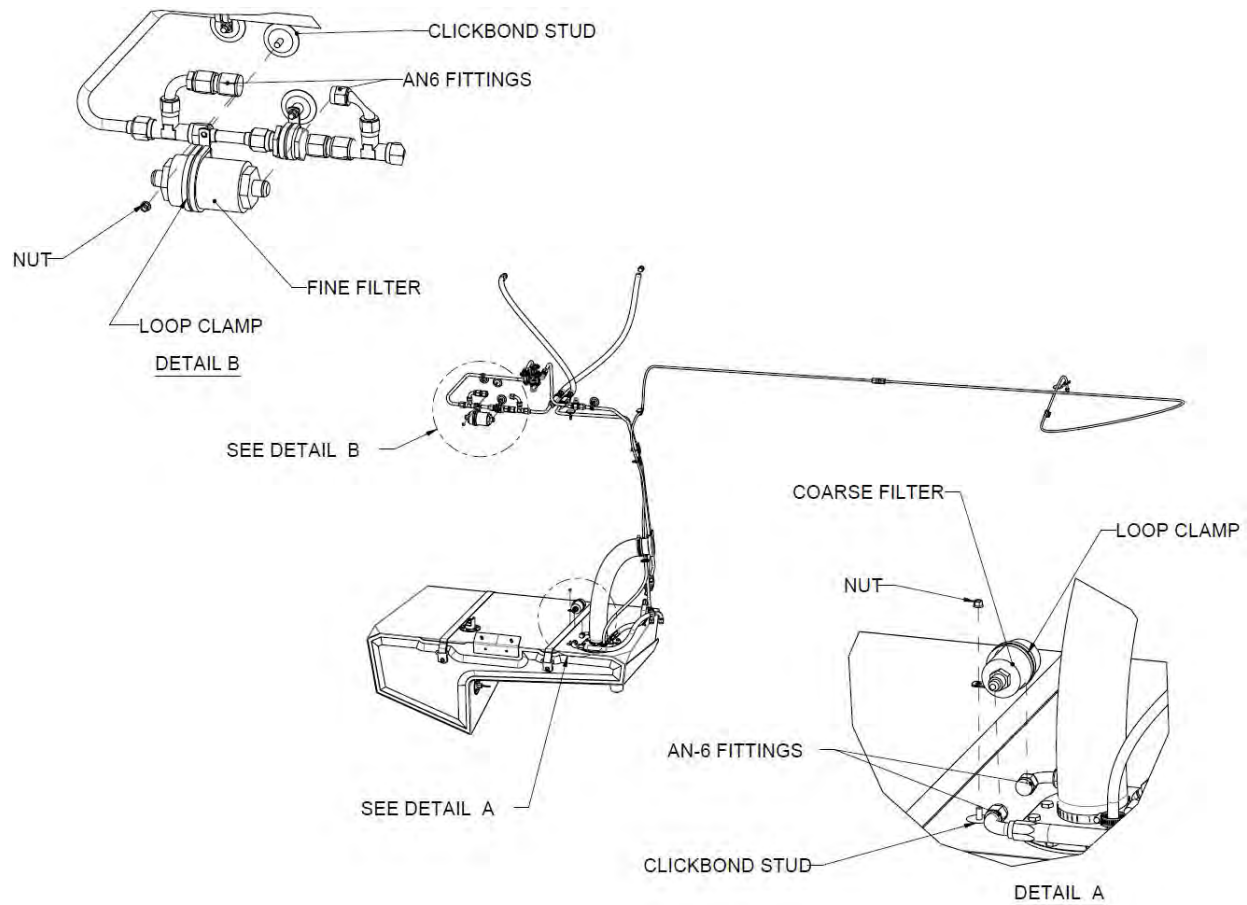

FIGURE 10-21
5. Using an 11/16 wrench, loosen the AN-6 fitting while securing the filter from rotation. Rotate the AN-6 connection fitting until completely free. (See Figure 10-21.)